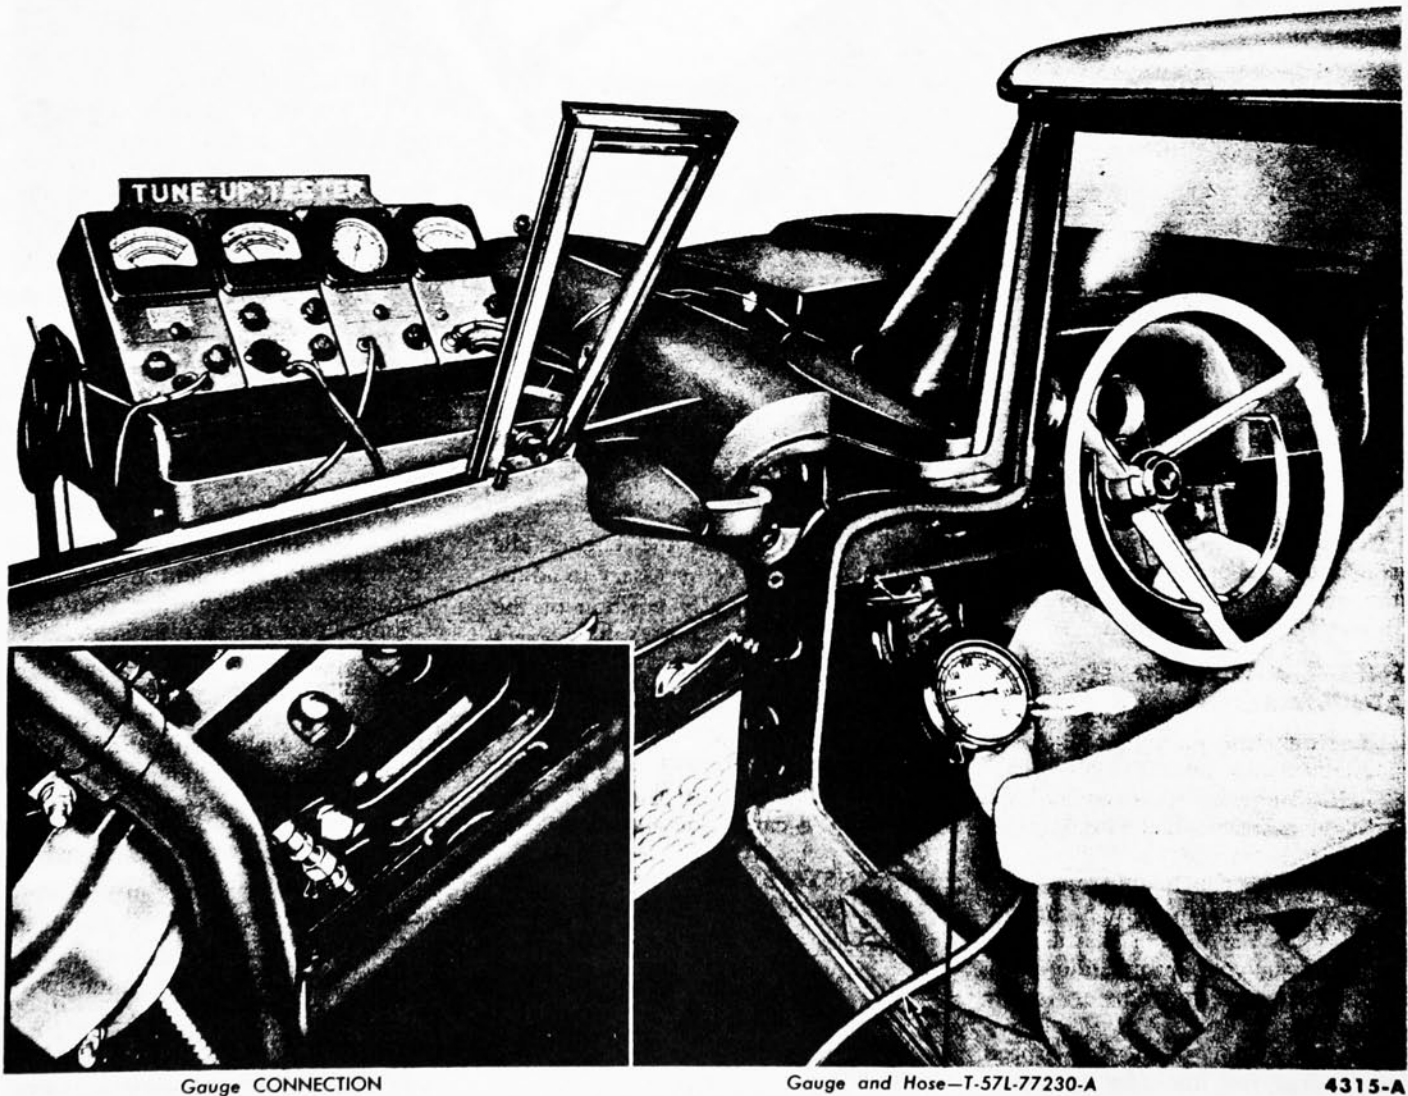

FIG. 7—Final Adjustment—Throttle Linkage
2. Raise the car on a hoist, and remove the ½-inch pipe plug located on the transmission case rear face (Fig. 7).
3. Install the pressure gauge (Fig. 7).
5. Position the gauge so it can be read from the driver's seat, and connect a tachometer to the engine (Fig. 7).